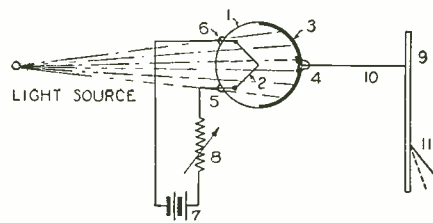

FIG. 3 DEMONSTRATION CIRCUIT
Fig. 3. The ionization of nitrogen. N is the nucleus; E, electron projectile falling toward plate, P; circle enclosing the negative sign, one of the seven electrons knocked off; and circle enclosing + is the remainder of the atom. Fig. 4. The nitrogen atom, which has a diameter of 1/100,000,000 of an inch. N, the nucleus having a diameter of 1/50,000 of the atom. +, the protons; diameter 1/2000 of that of an electron and 2000 times heavier. The dots represent electrons.
The very first cell constructed in the course of the experiments is shown diagrammatically in Fig. 2. We see there a glass container (1) in which is inclosed a filament (2), and a photo-electric plate (3). Contacts 4, 5 and 6 were brought to the outside. This tube was connected as shown in Fig. 3, where we see the tube connected to a battery (7) for lighting the filament, which can be regulated by means of a rheostat (8). If we connect the sensitive plate by means of a wire (10) to the stem of a sensitive electrometer (9), we see that the gold leaf (11) takes a position, depending upon the electronic charge which accumulates upon the photo-electric plate (3), as a result of the thermionic emission from the filament. If light now falls upon the cell, the photo-electric emission will come into play, and therefore the plate will lose some of its charge, with the result that we see the gold leaf fall down and take a second position, as indicated by the dotted line. As soon as the light source is removed, the gold leaf takes its original position. We can make this effect even stronger by interposing between the filament and the sensitive plate a grid, which is held at a constant positive potential, as is shown in Figs. 4 and 5.